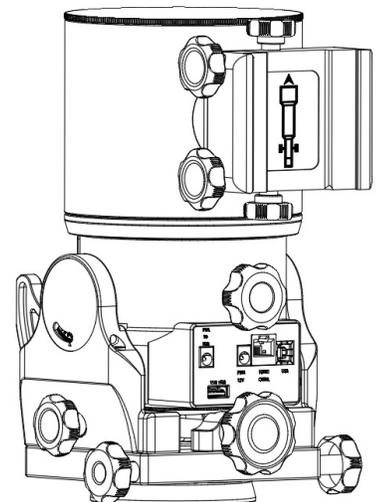

Fig. 3
2. For Alt-Azimuth (**AZ**) mode, turn the Altitude adjustment knob counterclockwise until it stops, and then lock Latitude locking knobs. leave the mount in upright position as shown in Fig.3